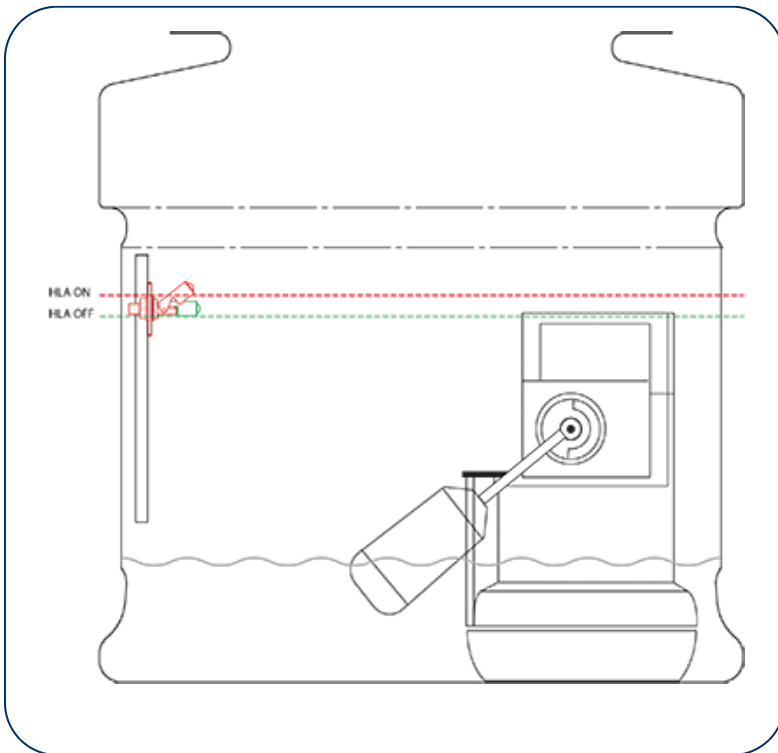

Fig.2 Mini float switch on and off positions
1. Please ensure you position the mini float switch higher than the primary pump activation point contained within, **as shown in fig 2.**